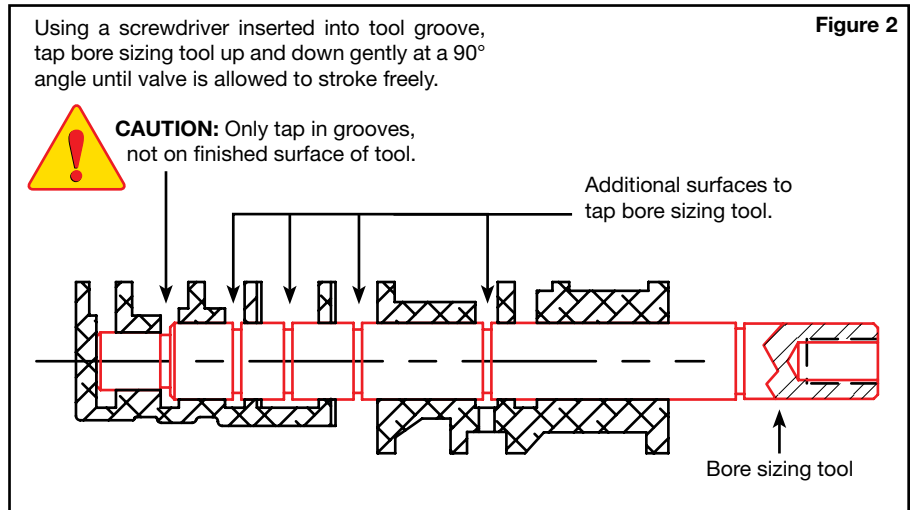

Figure 2
- If Sonnax valve and/or sleeve do not move freely, reinstall bore sizing tool and tap tool back and forth using a hammer and screwdriver inserted through the ports and into tool grooves (Figure 2). Repeat process until valve strokes freely.